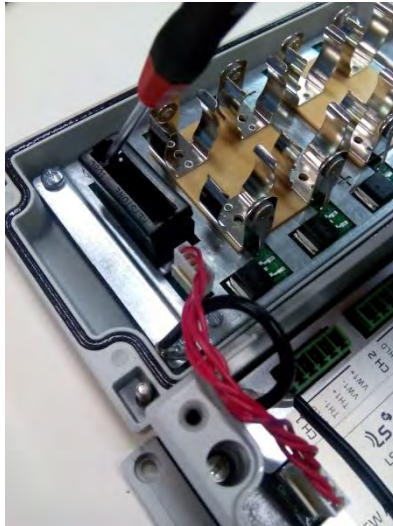

Figure 2: Removal of the upper enclosure of the battery holder.
- Insert RTC battery (small battery included). First remove the upper enclosure of the battery holder (Figure 2). Polarity is indicated inside the holder.